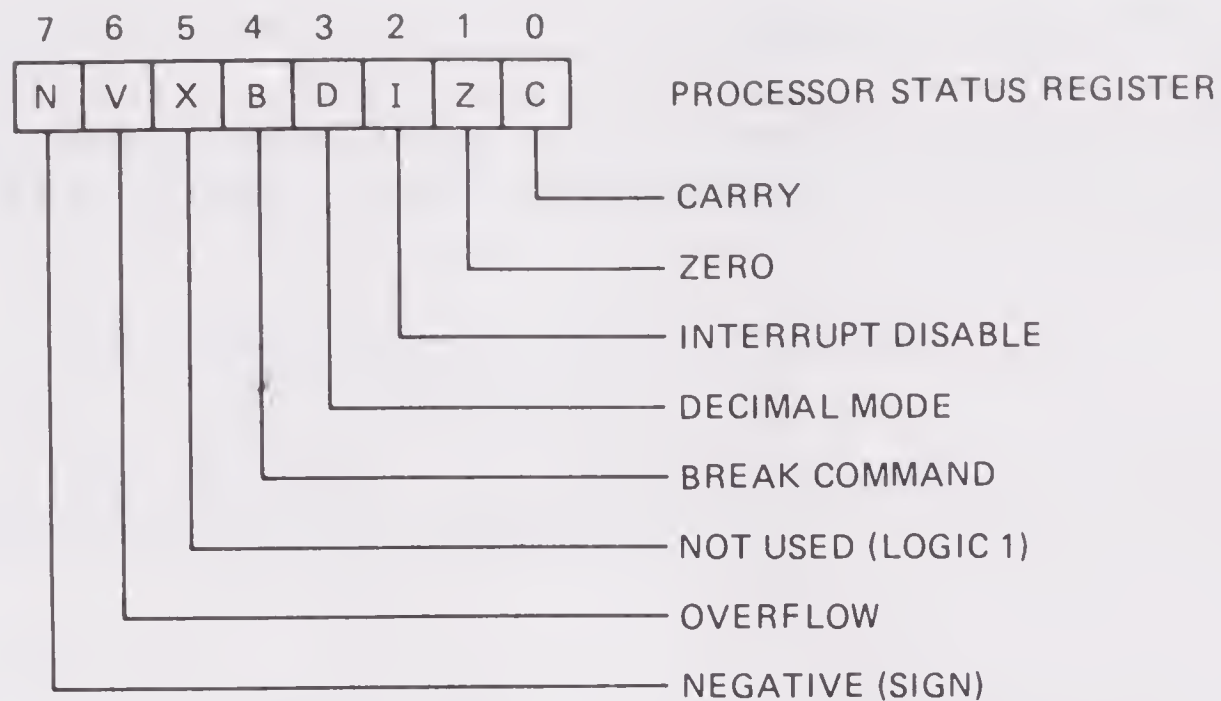

FIGURE 2-2. Organization of the 6502 processor status (P) register. Bit 5 is not used and is always 1.
1. The standard in the computer industry is to number bit positions starting with 0 at the far right. Thus the bits in a byte are numbered 0 through 7 from right to left; bit 0 is least significant and bit 7 most significant. Figure 2-2 (shown later in this chapter) is an example of the standard numbering. Be careful—switches and other I/O devices often use other conventions (e.g., 1 to 8 or left to right).
The current values of the flags are in the processor status (P) register (second register from the left in the AIM's register display; see Table 1-2). Figure 2-2 shows the organization of the P register. We will describe the DECIMAL MODE and INTERRUPT DISABLE flags later. Here the hexadecimal display is a nuisance, because only the binary values are meaningful. You can use Table 0-1 to convert hexadecimal to binary.